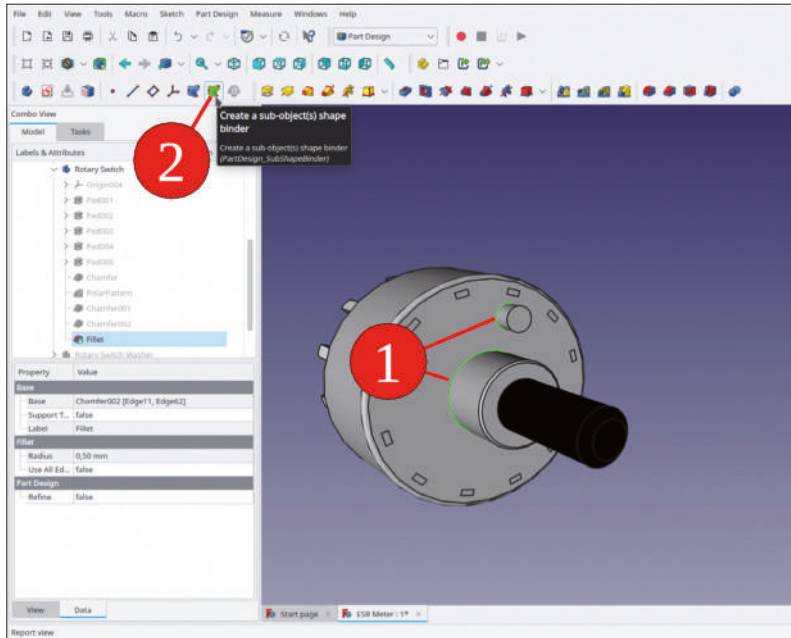

Figure 7-8
3. In the 3D view, while holding down the CTRL key, select the two contours that define the front panel footprint. Mark the contours at the base of the geometry, because for the following, the height of the curves has to match. Then, click the 'Create a sub object(s) shape binder' tool button (Figure 7-8).